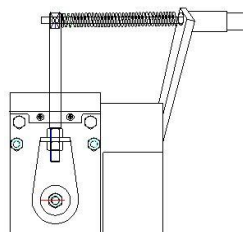

Figure 5
②Here does not show the install procedure of brake-loosing mechanism, as it was installed and debugged before delivery. The result is shown as figure 5: